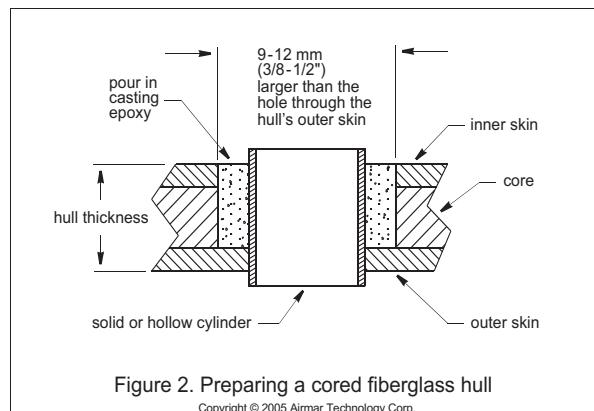

Figure 2. Preparing a cored fiberglass hull
2. Using the 21mm or 7/8" drill bit, cut a hole from outside the hull through the *outer* skin only (see Figure 2).